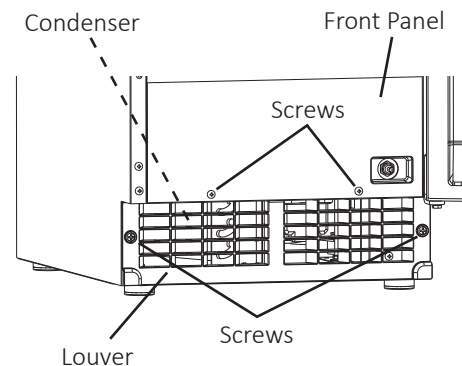

Fig. 25
- 2) Remove the screws securing the front panel, then remove it (See Fig. 25).